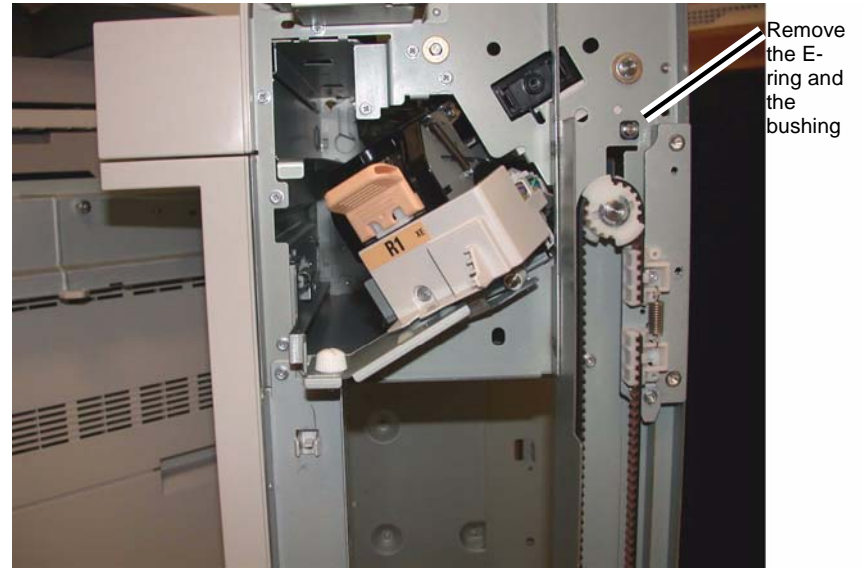

Figure 5 Removing the front E-ring from the Set Clamp Shaft
15. Remove the front E-ring and the bushing from the Set Clamp Shaft Assembly (Figure 5).